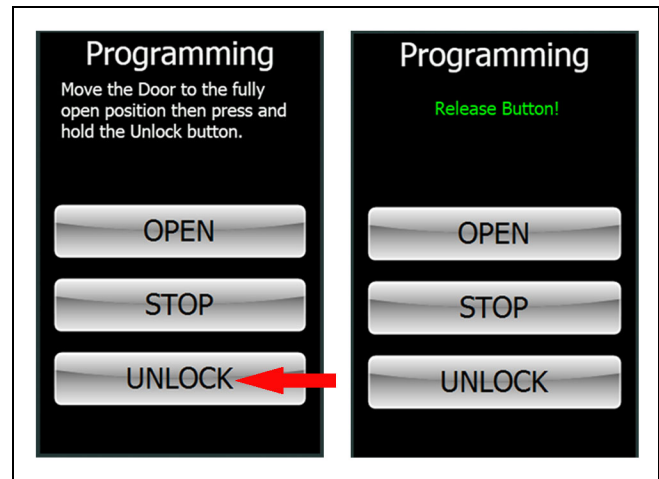

Figure 51
4. Manually move the door to the fully open position. Press and hold the "UNLOCK" button until the touch screen shows "Release Button!" or red and blue lights blink rapidly (on non-touch screens). See Figure 51.